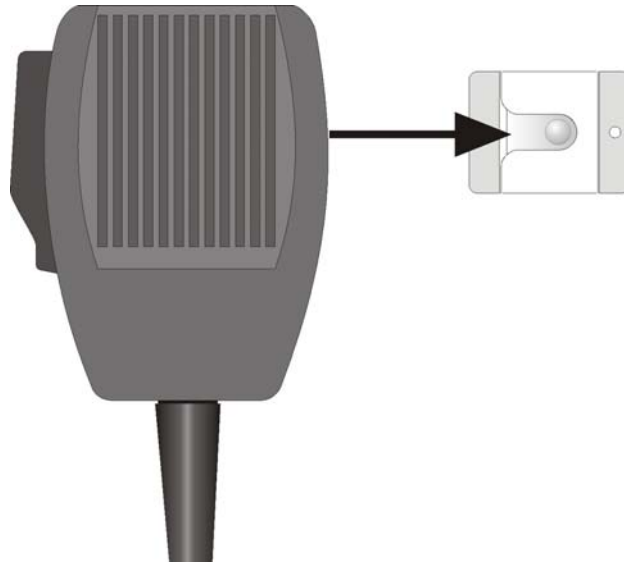

Figure 3-43 Sliding Microphone into Microphone Clip
1. Clip the microphone into the microphone clip. See Figure 3-43.